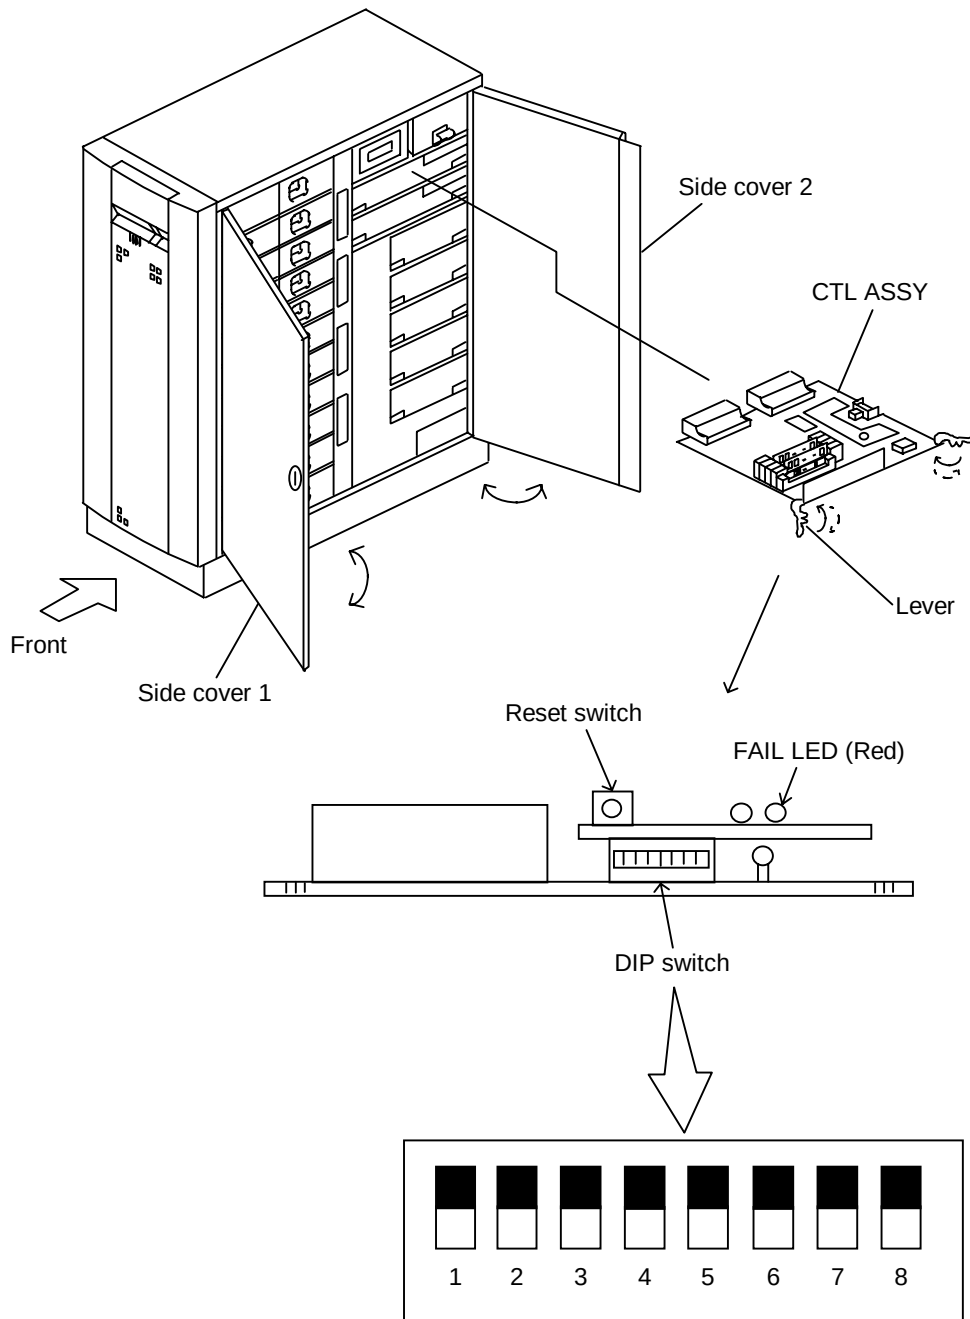

Figure 8.2.1 Replacing CTL ASSY
(1) Removing procedure
- ① First open the side cover 1 and then the side cover 2. (See CK-REP0160.)
- ② Disconnect the cables (RS232C).
- ③ Confirm the blocked CTL ASSY (with the FAIL LED turned on). (See Figure 8.2.1.)
- ④ Take out the CTL ASSY by pulling both levers on left and right side at the same time toward the directions shown by allows (·····➤)
- ⑤ Remove the CACHE ASSY. If the LAN ASSY is installed, also remove it.
(2) Installing procedure